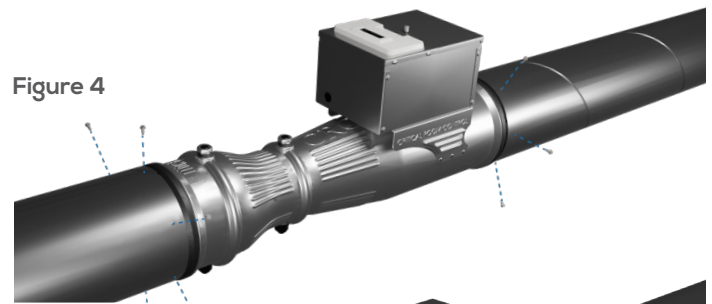

Figure 4
Attach the air valve to the ductwork using a minimum of six (6) sheet metal screws (see Figure 4).